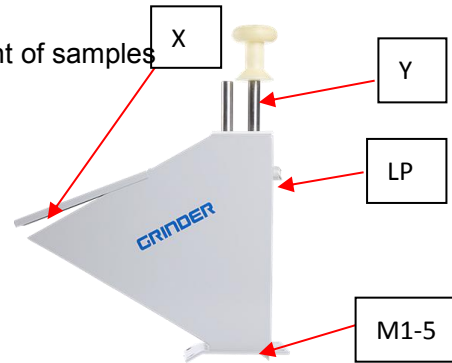

fig 5.12
5.12 Universal hopper (fig 5.12)